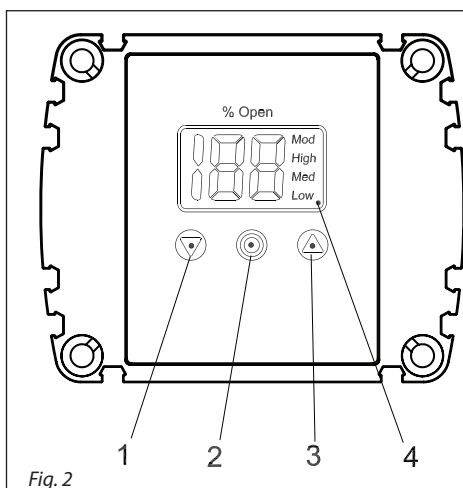
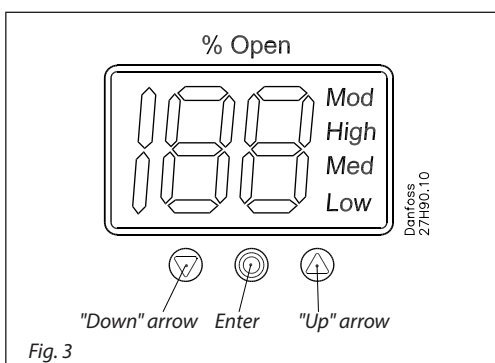

Fig. 2
Fig. 3
The setting of parameters is managed by means of the integrated ICAD MMI (see fig. 2 and fig. 3) and consists of:
- "Down" arrow push button (fig. 2, pos. 1)
- "Up" arrow pushbutton (fig. 2, pos. 3)
- Enter push button (fig. 2, pos. 2)
- To exit from the **Parameter list** and return to the display of Opening Degree (OD) keep the push button activated for 2 seconds.
- Display (fig. 2, pos. 4)
- Displays the function status by means of text (fig. 2, pos. 4)
If an alarm has been detected the ICAD display (fig. 2) will alternate between showing Actual alarm and present Opening Degree.
5. When the display on ICAD (fig. 2, page 78) is alternating between showing: **CA** and **A1** the factory resetting is complete.